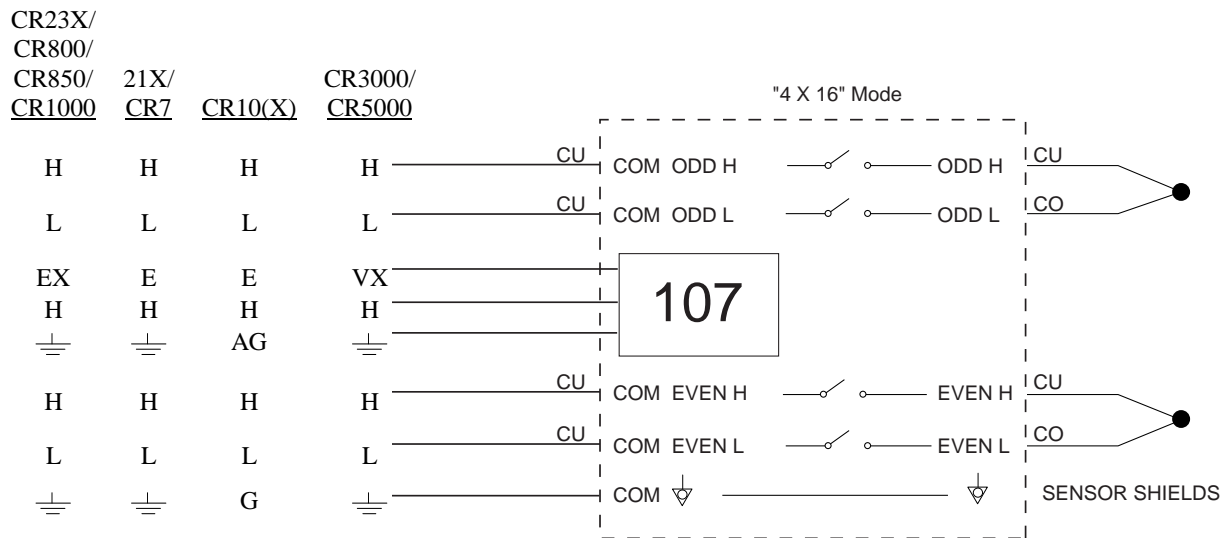

FIGURE 19. Differential Thermocouple Measurement with Reference Junction at the AM16/32B
If a mix of TCs and other sensor types are multiplexed through the AM16/32B, it is generally best to locate the reference junction on the AM16/32B, as shown in Figure 19.
**AM16/32B Reference** - An external reference, usually a thermistor, can be located at the AM16/32B, as shown in Figure 19. This approach requires an additional single-ended datalogger input to measure the reference. Position the reference next to the COM terminals and, when practical, measure the thermocouples on SETs that are in close proximity to the COM terminals in order to minimize thermal gradients.